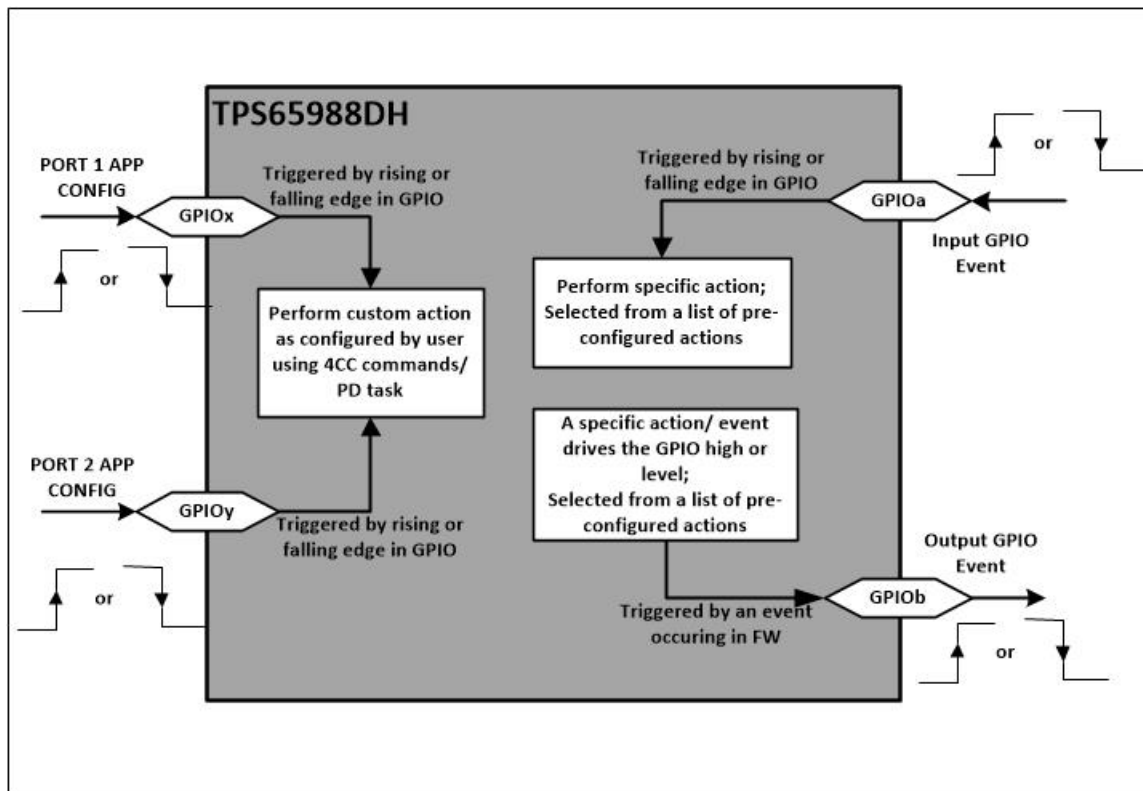

Figure 2-5. GPIO Event
GPIO events feature enables users to map a PD or USB Type-C event inside the PD controller to a GPIO (see Figure 2-5).
- Unlike input GPIO event that triggers a predefined PD or USB Type-C® event, an Application Configuration GPIO event provides more flexibility in the design to trigger custom actions using an input GPIO (see Figure 2-5). Custom actions could be configured by the user using 4CC commands or PD tasks in Configuration